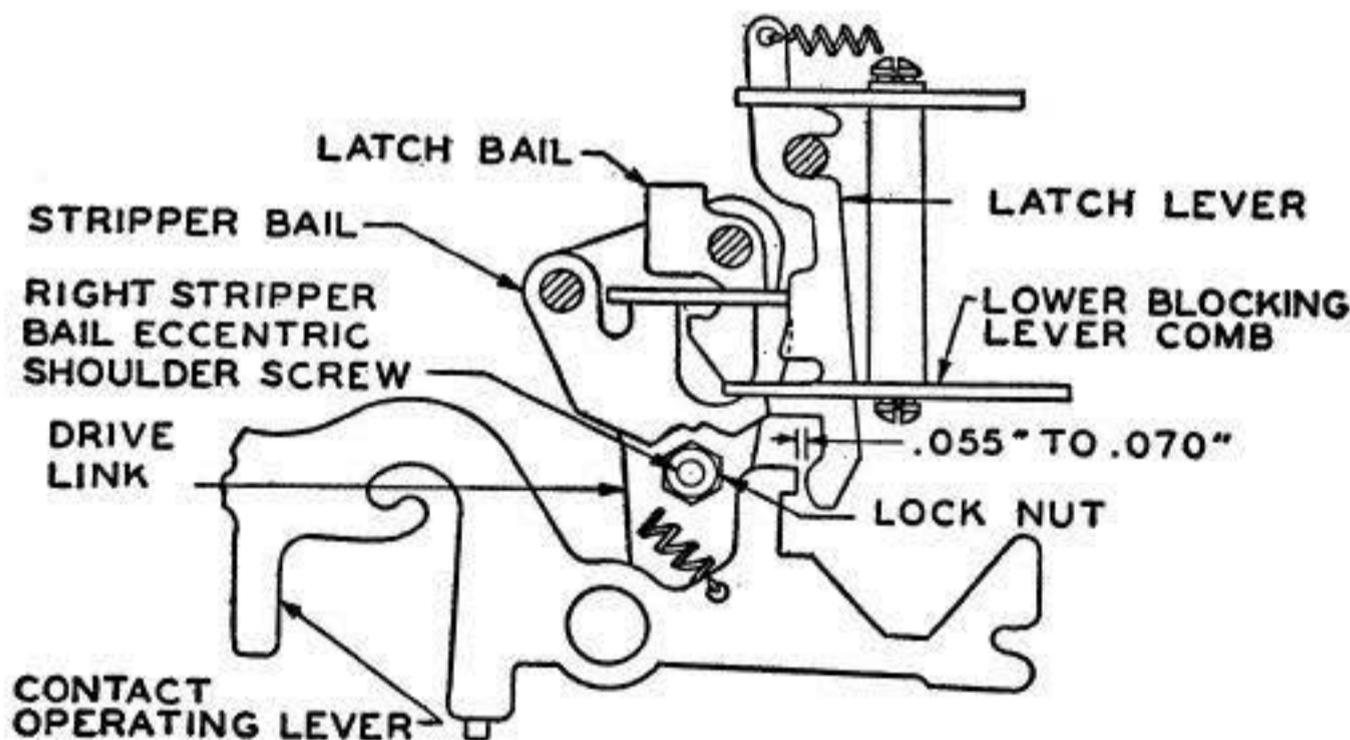

Fig 20
3.28 **Stripper-Bail-Eccentric Shoulder Screws:** There should be Min .055", Max .070" clearance at the two ends of the blocking and latching-lever assembly, between the latching extensions of the contact-operating levers and their associated latch levers. The clearances at the two ends should be equal within .010". **Fig 20**